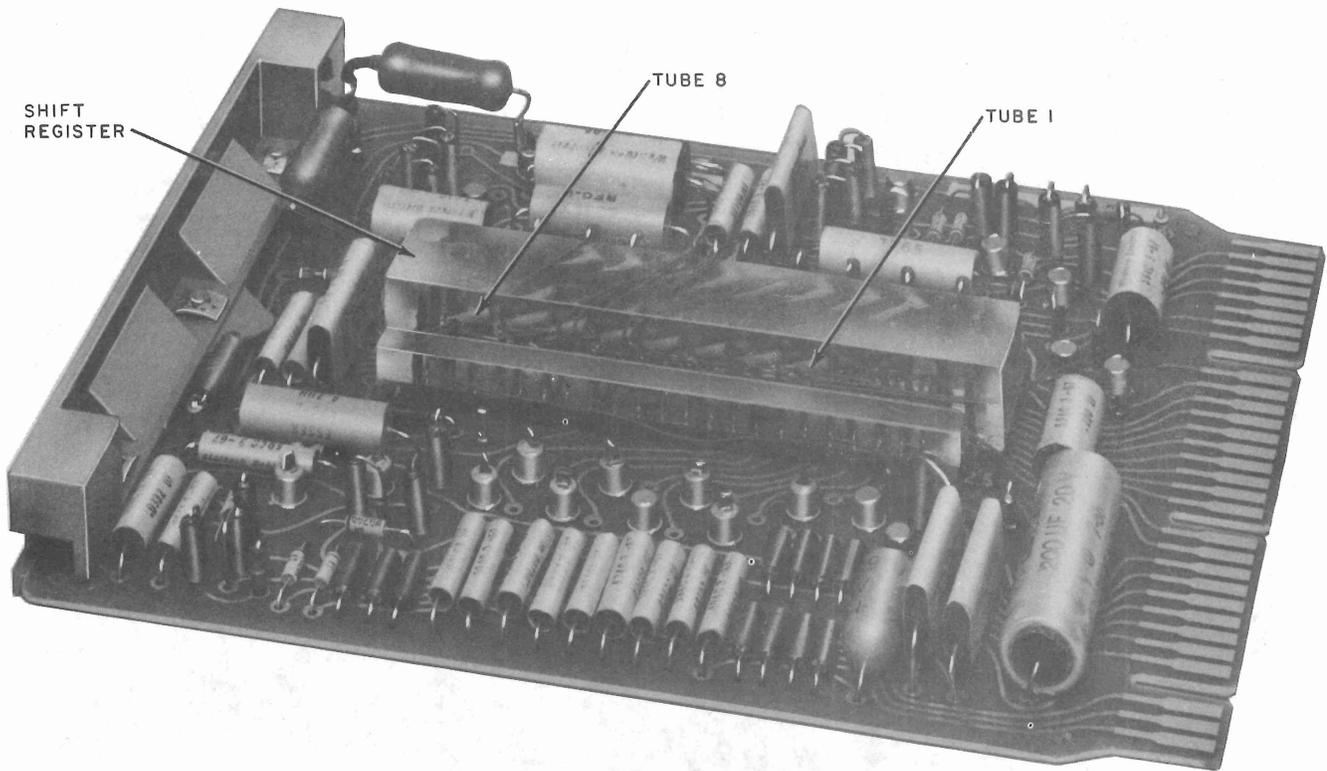

Fig. 3—AR272 Circuit Pack—Location of Shift Register
**2.07** Inspect the shift register (Fig. 3). A properly encoded AR272 shift register should have three 36-gauge, polyurethane-coated wires running through the eight tubes.